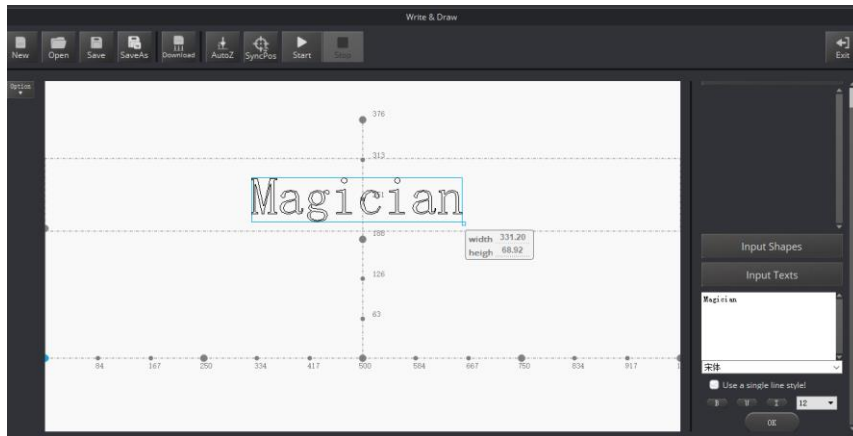

Figure 5.200 Input text
Step 6 Input text on the **Input Texts** pane and click **OK**, as shown in Figure 5.200.